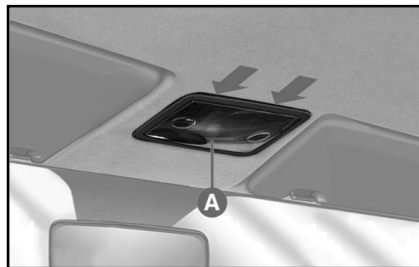

fig. 28
– remove the whole ceiling light group, pressure-fitted, by levering with a screwdriver in the direction of the arrows **A**-fig. 28 ;